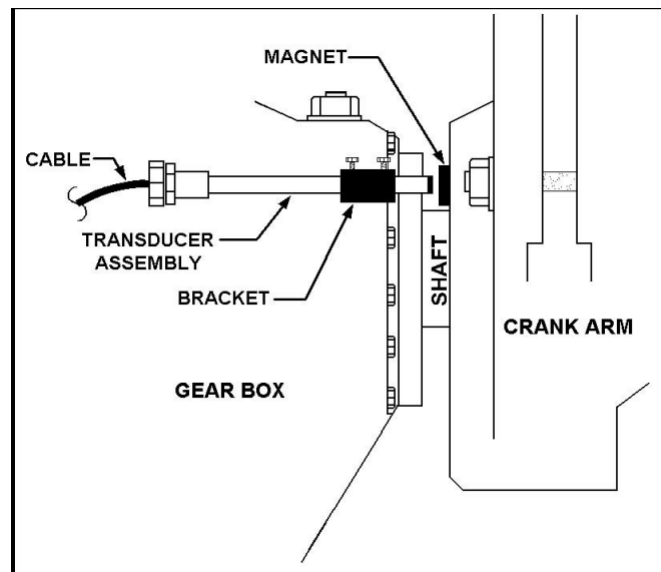

Figure 48 Bar Magnet Mounted on Back of Crank Arm
- 3 Select a bolt on the gearbox slow speed shaft bearing cap that will allow the easiest and best alignment of the transducer and the magnet. Remove the bolt and mount the bracket of the Hall-Effect transducer. Reinstall and tighten the bolt to secure the bracket. See Figures 48 and 49.